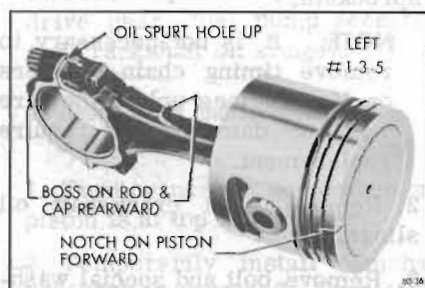

Figure 60-133—Left Piston and Rod Assembly
2. If the piston and rod assembly is to be installed in the left bank, the assembly must be made as shown in Figure 60-133.
16. Install all other piston and rod assemblies in same manner. When piston and rod assemblies are properly installed, the oil spurt holes in the connecting rods will be "up" toward the camshaft, the rib on the edge of the rod cap will be on the same side as the conical boss on the connecting rod web, and these marks, (rib and boss) will be toward the other connecting rod on the same crankpin. See Figures 60-133 and 60-134.